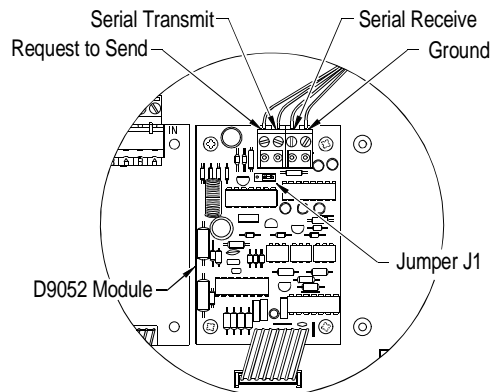

Figure 6: Serial Input/output Connections
- The serial input/output (modem) wiring connects to the D9052 module at the terminal block at the top of the module. See Figure 6.
- The D9052 optically isolates the serial input/output signal. Change the position of Jumper J1 to invert the request to send signal. The default position is to the right as shown in Figure 6.